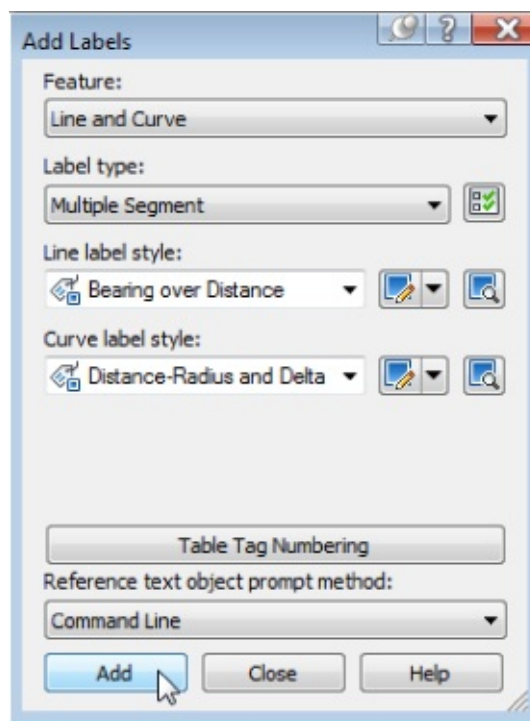

Figure 1.61 The Add Labels dialog, with Label Type set to Multiple Segment
Your Add Labels dialog will look similar to Figure 1.61.
5. Confirm that Line Label Style is set to Bearing Over Distance and that Curve Label Style is set to Distance-Radius And Delta (as shown in Figure 1.61).